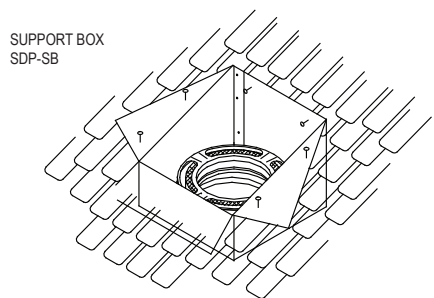

Figure 22
3. Install Support Box: Slip the Square Support Box into the framed opening so it projects at least 2 inches below the finished ceiling and rafters, and extends above the ceiling to framing or decking materials to which it will be nailed. Level the Support Box, and slit the corners to the roofline where they extend beyond it. Bend the flaps (created by the slitting) flush with the roof, and nail the Support Box to the roof or framing with at least two 8-penny nails per side. (**Figure 22**). Screw the trim sections into the ceiling. (**Figure 6**).